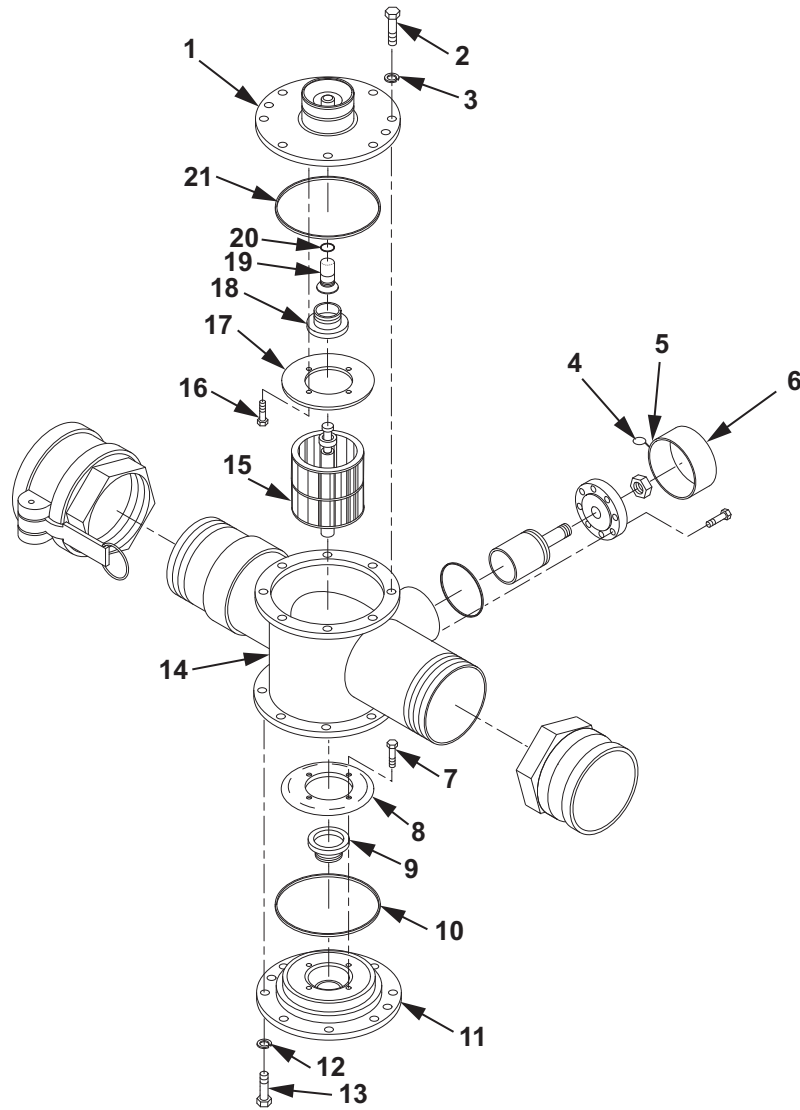

Figure 1. 4 In. Inline Flowmeter Disassembly.
2. Remove register readout from the flowmeter (Figure 1, Item 14) (WP 0154).
1. Remove top cover (Figure 1, Item 1) from flowmeter (Figure 1, Item 14).
- a. Remove safety wire (Figure 1, Item 4) from calibration plug cover (Figure 1, Item 6).
- b. Remove eight screws (Figure 1, Item 2) and lockwashers (Figure 1, Item 3). Discard lockwashers (Figure 1, Item 3).
- c. Remove top cover (Figure 1, Item 1).
2. Remove O-ring (Figure 1, Item 21) from top cover (Figure 1, Item 1). Discard O-ring (Figure 1, Item 21).
3. Disassemble top cover (Figure 1, Item 1).
- a. Remove four screws (Figure 1, Item 16) from top cover (Figure 1, Item 1).
- b. Remove throttle plate (Figure 1, Item 17) from top cover (Figure 1, Item 1).
- c. Remove bearing insert (Figure 1, Item 18) from top cover (Figure 1, Item 1).
- d. Remove flowmeter diaphragm (Figure 1, Item 19) from top cover (Figure 1, Item 1).
- e. Remove O-ring (Figure 1, Item 20) from flowmeter diaphragm (Figure 1, Item 19). Discard O-ring (Figure 1, Item 20).
1. Carefully pull outward on the rotor and shaft assembly (Figure 1, Item 15) to remove from flowmeter (Figure 1, Item 14).
2. Remove rotor and shaft assembly (Figure 1, Item 15) from flowmeter (Figure 1, Item 14).
1. Remove rear cover (Figure 1, Item 11) from flowmeter (Figure 1, Item 14).
- a. Remove four screws (Figure 1, Item 13) and lockwashers (Figure 1, Item 12) from rear cover (Figure 1, Item 11). Discard lockwashers (Figure 1, Item 12).
- b. Remove rear cover (Figure 1, Item 11).
2. Remove O-ring (Figure 1, Item 10) from rear cover (Figure 1, Item 11). Discard O-ring (Figure 1, Item 10).
3. Disassemble rear cover (Figure 1, Item 11).
- a. Remove four screws (Figure 1, Item 7) from rear cover (Figure 1, Item 11).
- b. Remove throttle plate (Figure 1, Item 8) from rear cover (Figure 1, Item 11).
- c. Remove bearing insert (Figure 1, Item 9) from rear cover (Figure 1, Item 11).